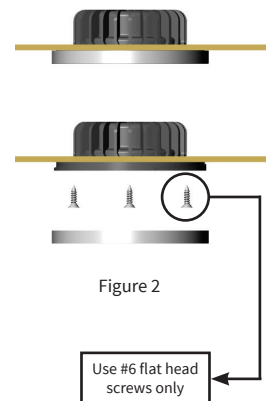

Figure 2
3. Once all electrical connections are made and secure, twist and remove the trim ring of your PowerLED and insert it into the cutout circle in the mounting surface. Fasten with #6 flat head screw. (See Figure 2)